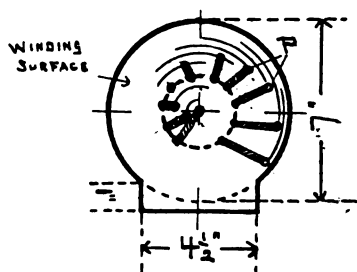

Fig. 3
*X*, the support for the secondary, shown in Fig. 3, is of  $\frac{7}{8}$  in. teak wood, and is wound same as primary with approximately 425 ft. of No. 28 S.S. wire. Here the greatest caution should be exercised, taking ample time to make winding perfect. When placed in position the winding is to be in opposite direction to that of the primary. Ten small holes are drilled for taps, which are enclosed in  $\frac{1}{16}$  in. rubber piping, at such distances as will give all sections nearly equal lengths of wire, as shown by *P*, Fig. 3, so as each respective tap comes directly to its proper connection under secondary switch *J*, which will